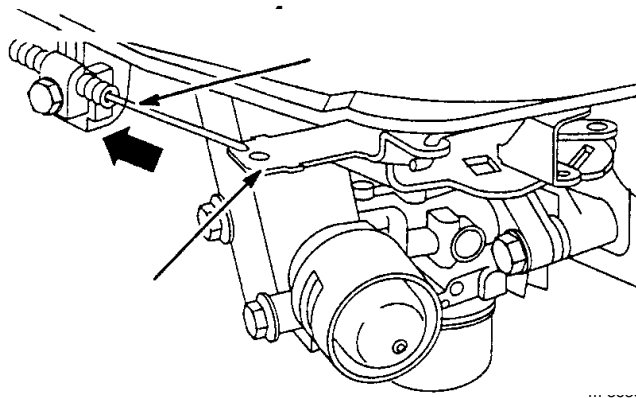

Figure 19
2. Loosen cable clamp screw until throttle cable slides (Fig. 19).
3. Move governor control lever, throttle cable and casing in direction of arrow as far as possible (Fig. 19).